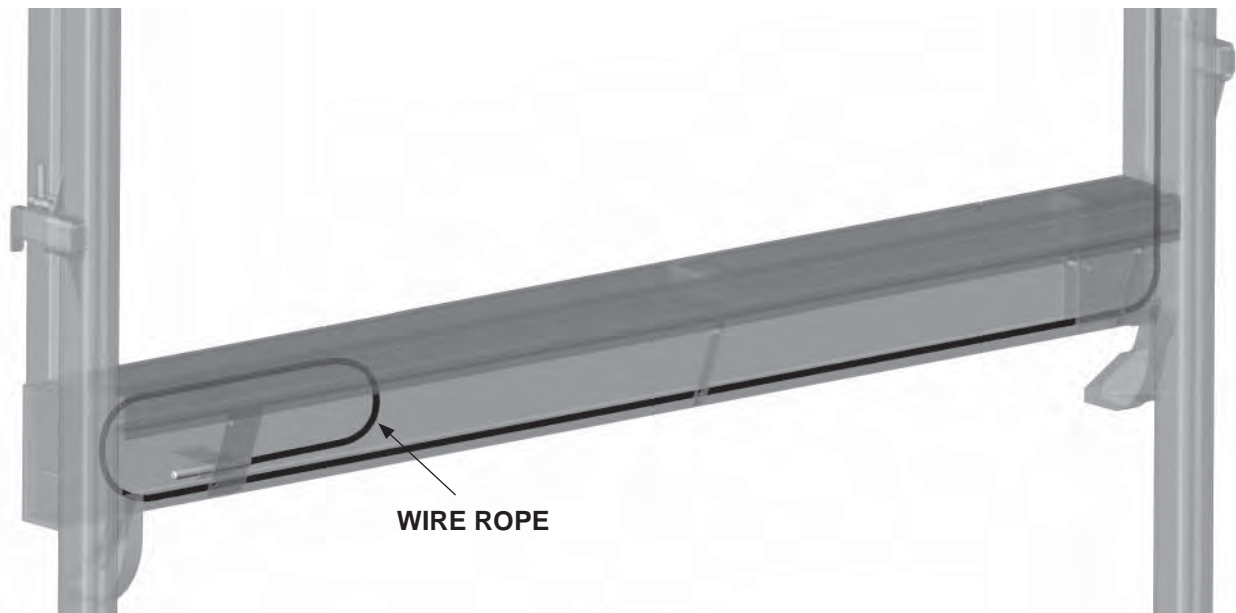

FIG. 24-2
5. For the longer wire rope installation on the right hand column, use the same procedure used for the left hand column. Pull approximately 11 to 12 feet of wire rope into the main frame assembly. See FIG. 24-2.